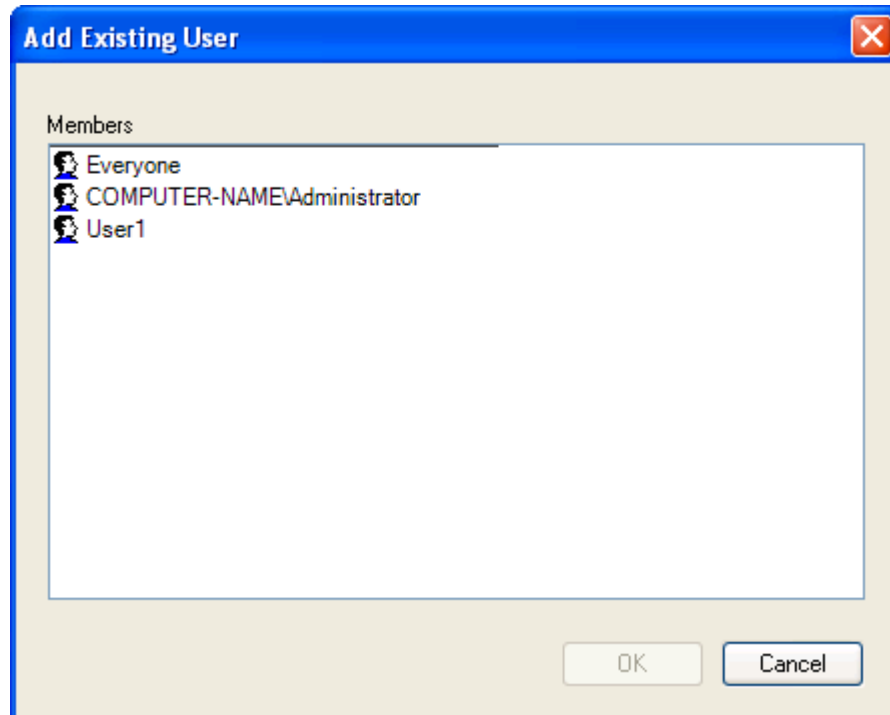

Figure 95 - Add Existing User Window
1. Click on the **Add** button. The **Add Existing User** window (Figure 95) appears.